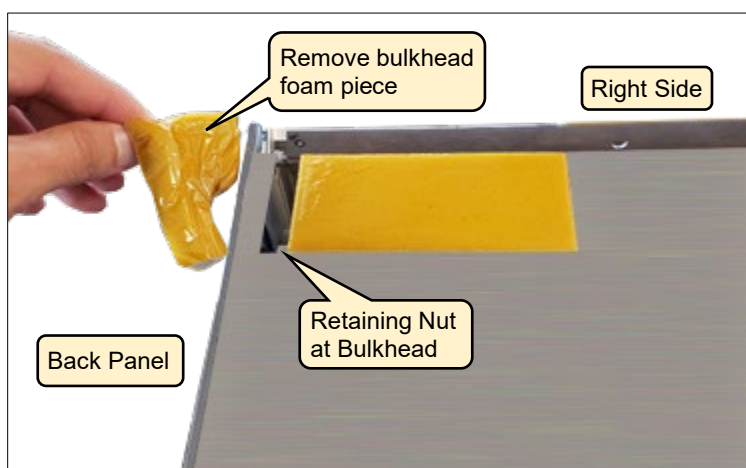

Figure 14: Bulkhead Foam Removed and Retaining Nut Loosened
4. Using the 5/8" wrench, loosen the filter cover retaining nut on the input bulkhead (about 1 full turn should be enough). See Figure 14.